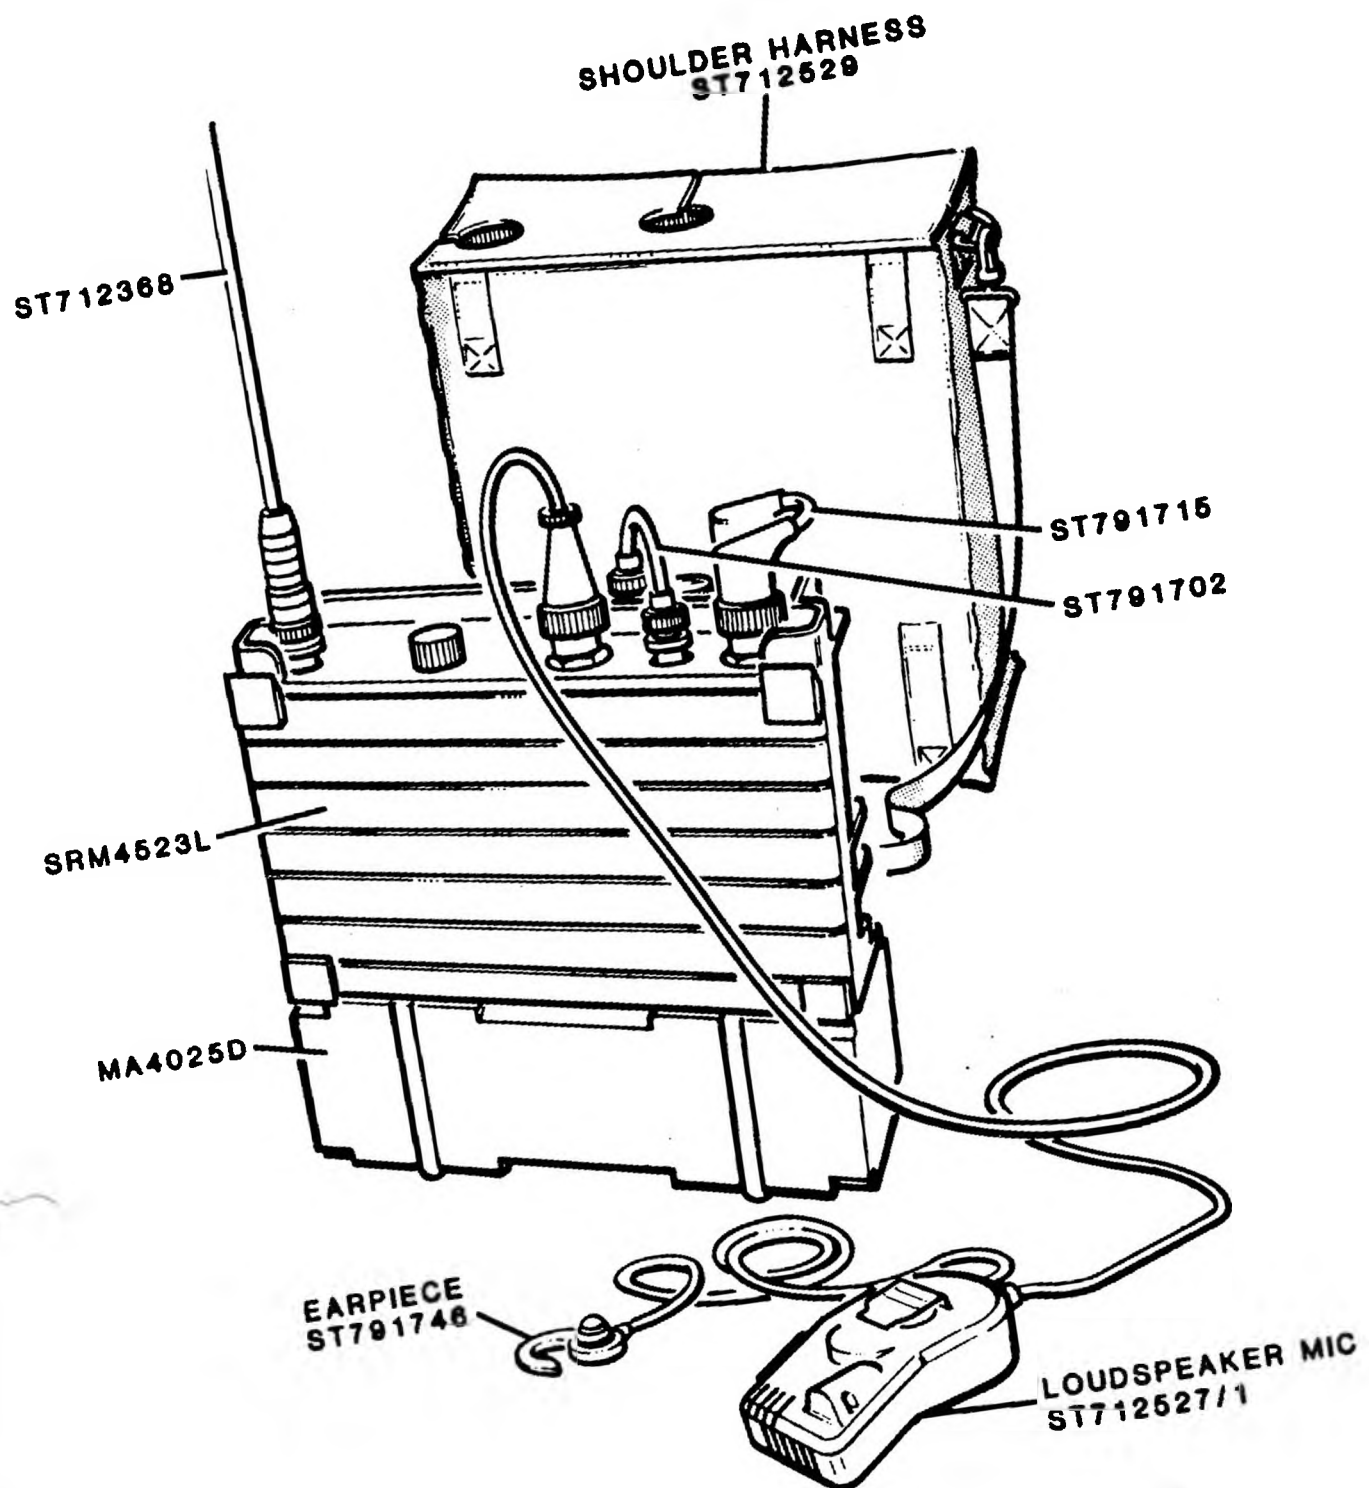

Fig 2 Manpack
3.2 Manpack (Fig 2). Previously known as the Mobile Base Station, this has the same facilities as the Portable Station but with an output of up to 20 W using the RF Amplifier TA4523L. A shoulder harness is provided.